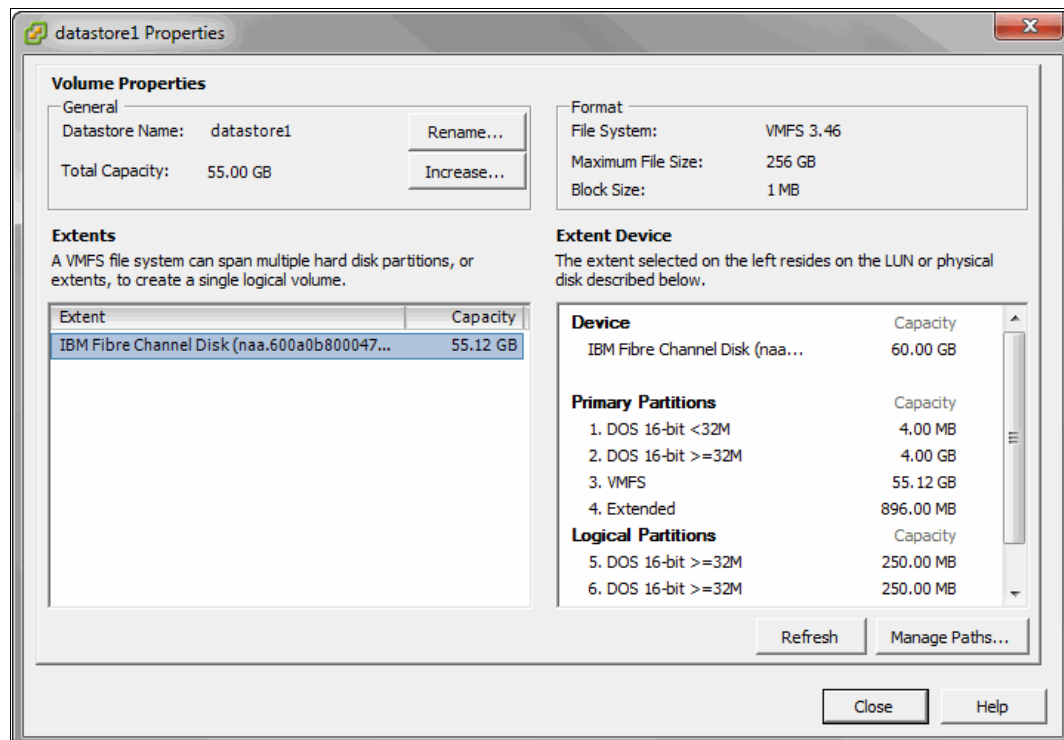

Figure 2-124 Manage paths and properties view
3. Verify drive size and click the **Manage paths** button to check the multipath (Figure 2-124).